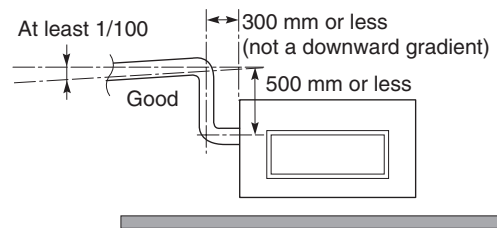

Fig. 3-15
- Make sure that the drain port is not a downward gradient from the joint section (may lead to abnormal noise). (Fig. 3-15)
- If it is necessary to increase the height of the drain pipe, the section directly after the connection port can be raised a maximum of 500 mm. Do not raise it any higher than 500 mm, as this could result in water leaks. (Fig. 3-15)